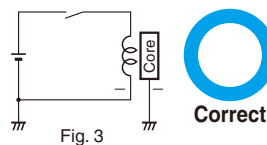

Fig. 3
- (2) If grounding the positive side of the power supply is not possible and the negative side must be grounded, connect a switch to the positive side so that the coil is connected to the negative side. (Fig. 3)